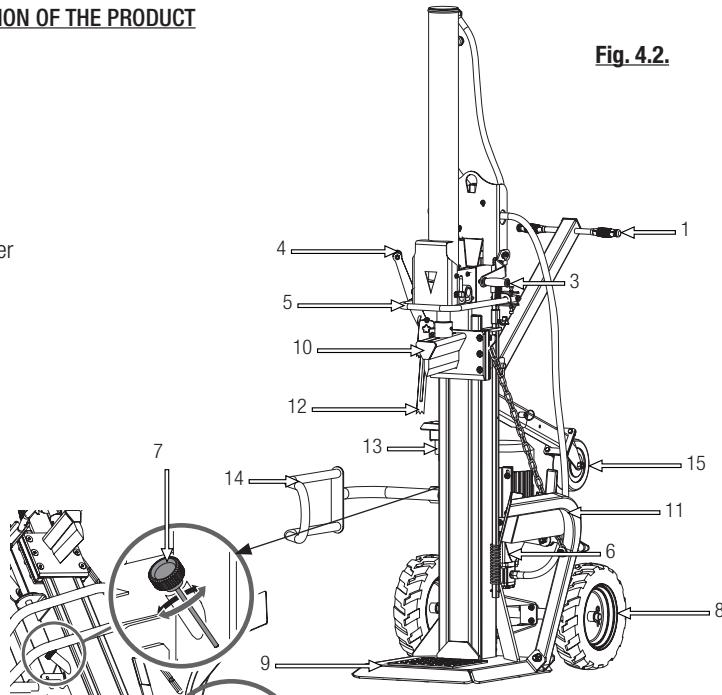

Fig. 4.2.
- Lower the cutter (Fig 4.2.-3) and pressure (Fig 4.2.-4) levers to raise the hydraulic cylinder to the maximum (1).
- Insert L-pins (2) to secure hydraulic cylinder. Lock the L-pins in the tabs enabled for this (3 and 4)
- Release both levers (Fig 4.2.-3) and (Fig 4.2.-4), operate the reverse lever (Fig 4.2.-5) to raise the blade. Remove the transport bracket from the blade.
3. Put the log on the work table and hold it using the claw (Fig 4.2.-12). To do this, lower the pressure lever (Fig 4.2.-4) until the claw touches the trunk. The grapple can be adjusted as shown in the figure to suit different log heights.
4. While keeping the pressure lever (Fig 4.2.-4) holding the log, move the cutting lever (Fig 4.2.-3) down until it touches the log. Start cutting the log by pressing the cutting lever halfway (slow speed and greater force) and when the log has opened you can switch to fast speed by pushing the lever fully to finish dividing the log more quickly.
Note: This chipper is equipped with the "ZHB" control system that requires both hands to be used. The left hand controls the pressure lever (Fig 4.2.-4) while the right hand controls the cutter lever (Fig 4.2.-3).
5. To return the blade to the initial position, press the reverse lever (Fig 4.2.-5)